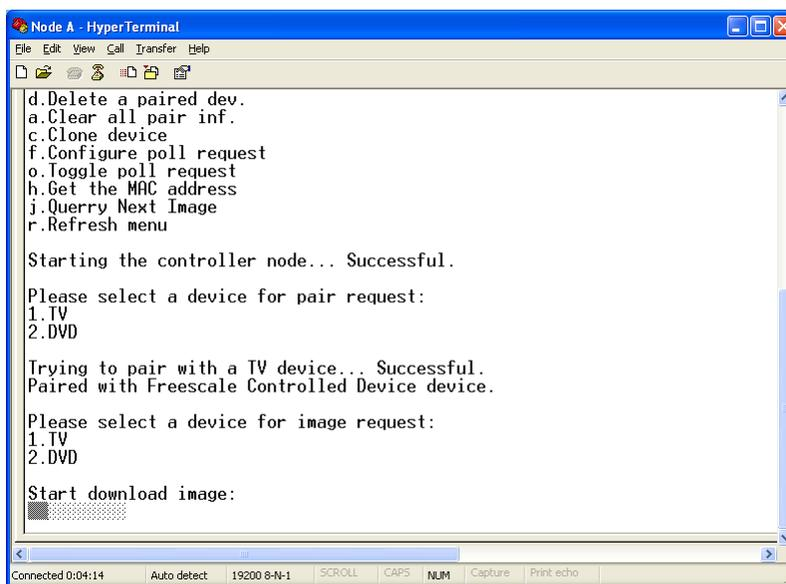

Figure 5-4. OTAP Client New Image Download
6. The client may query for a new image by pressing ‘j’ key. Select the target paired node to copy the image from. A status bar displays the transmission progress on both nodes. Figure 5-4 shows the progress on OTAP client.